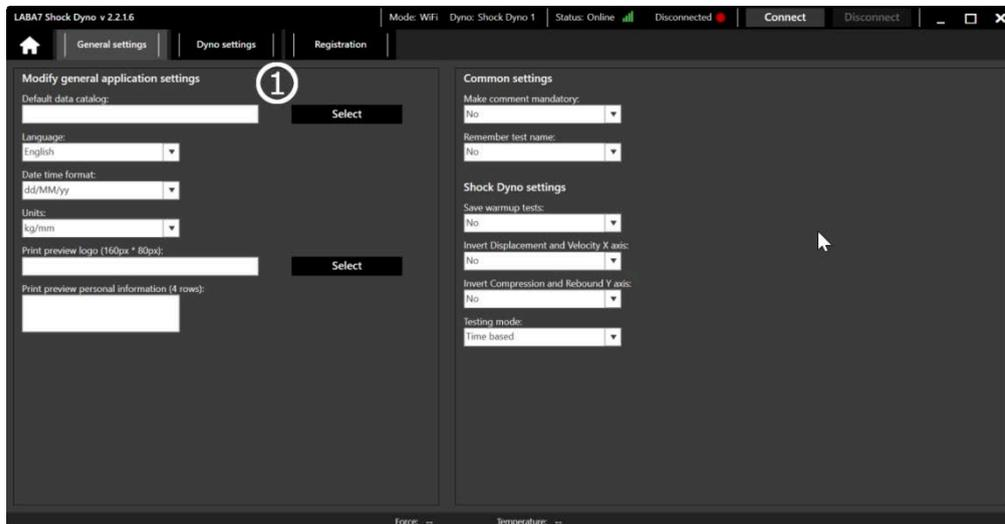

Figure 13
2. Select the default data catalog, this is the catalog, where all of your test project files will be saved.(Figure 13 – Step 1).